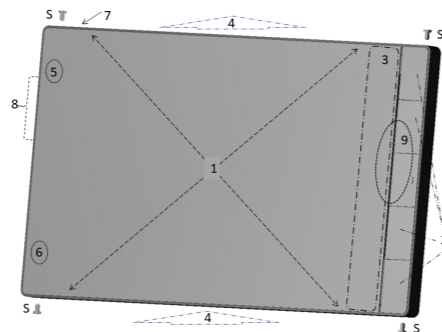

Figure 2: HTS10 Details
- There is no ON/OFF switch. The HTS10 is designed for continuous use. On the upper face of the HTS10 is a single small hole (7 Figure 2: HTS10 details), here is a reset button.